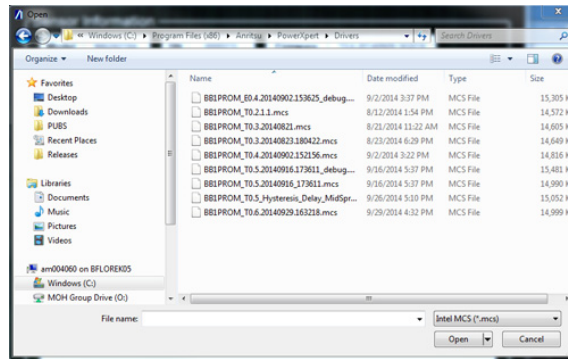

Figure C-4. Verifying Location of Firmware File
4. Select the .mcs file that you want to load into the Browse text box. Figure C-4.